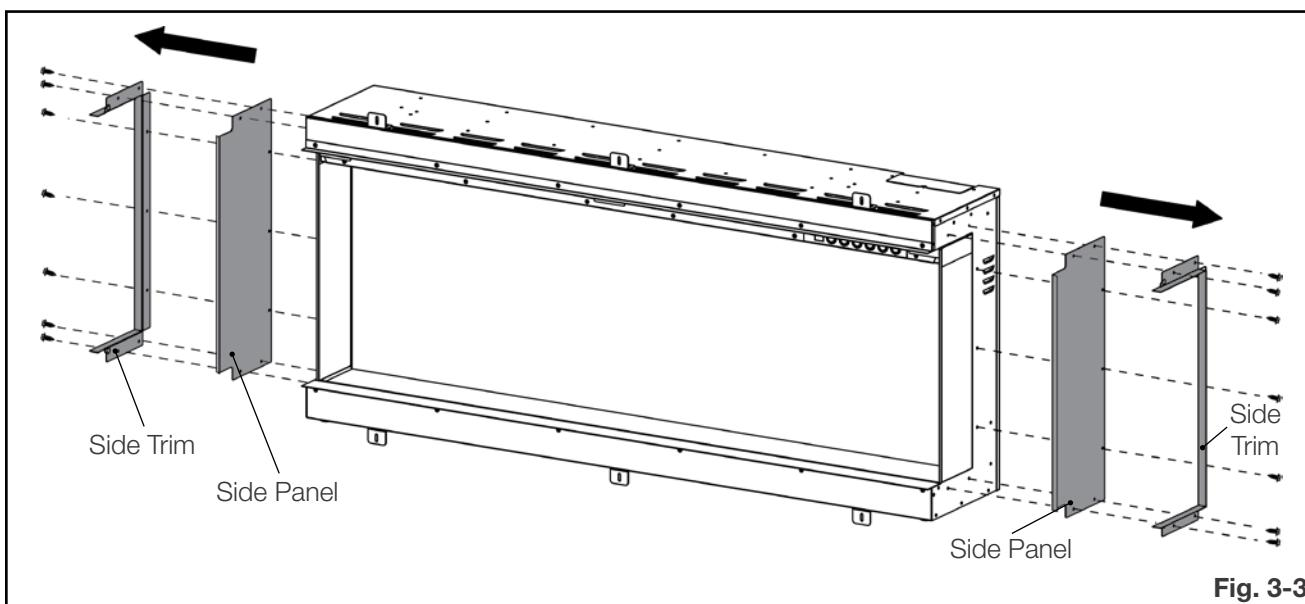

Fig. 3-3
3. Remove the side trims and side panels from both sides of the appliance by removing the 14 screws (**Fig. 3-3**). Set the side trims, side panels, and screws aside.